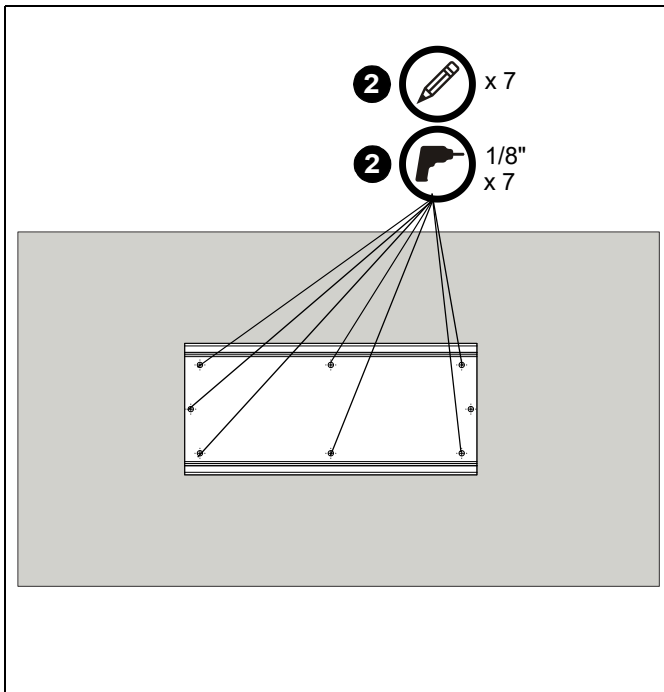

Figure 2
2. Using under-desk track (D) as a template, mark and drill seven 1/8" diameter pilot holes. (See Figure 2)